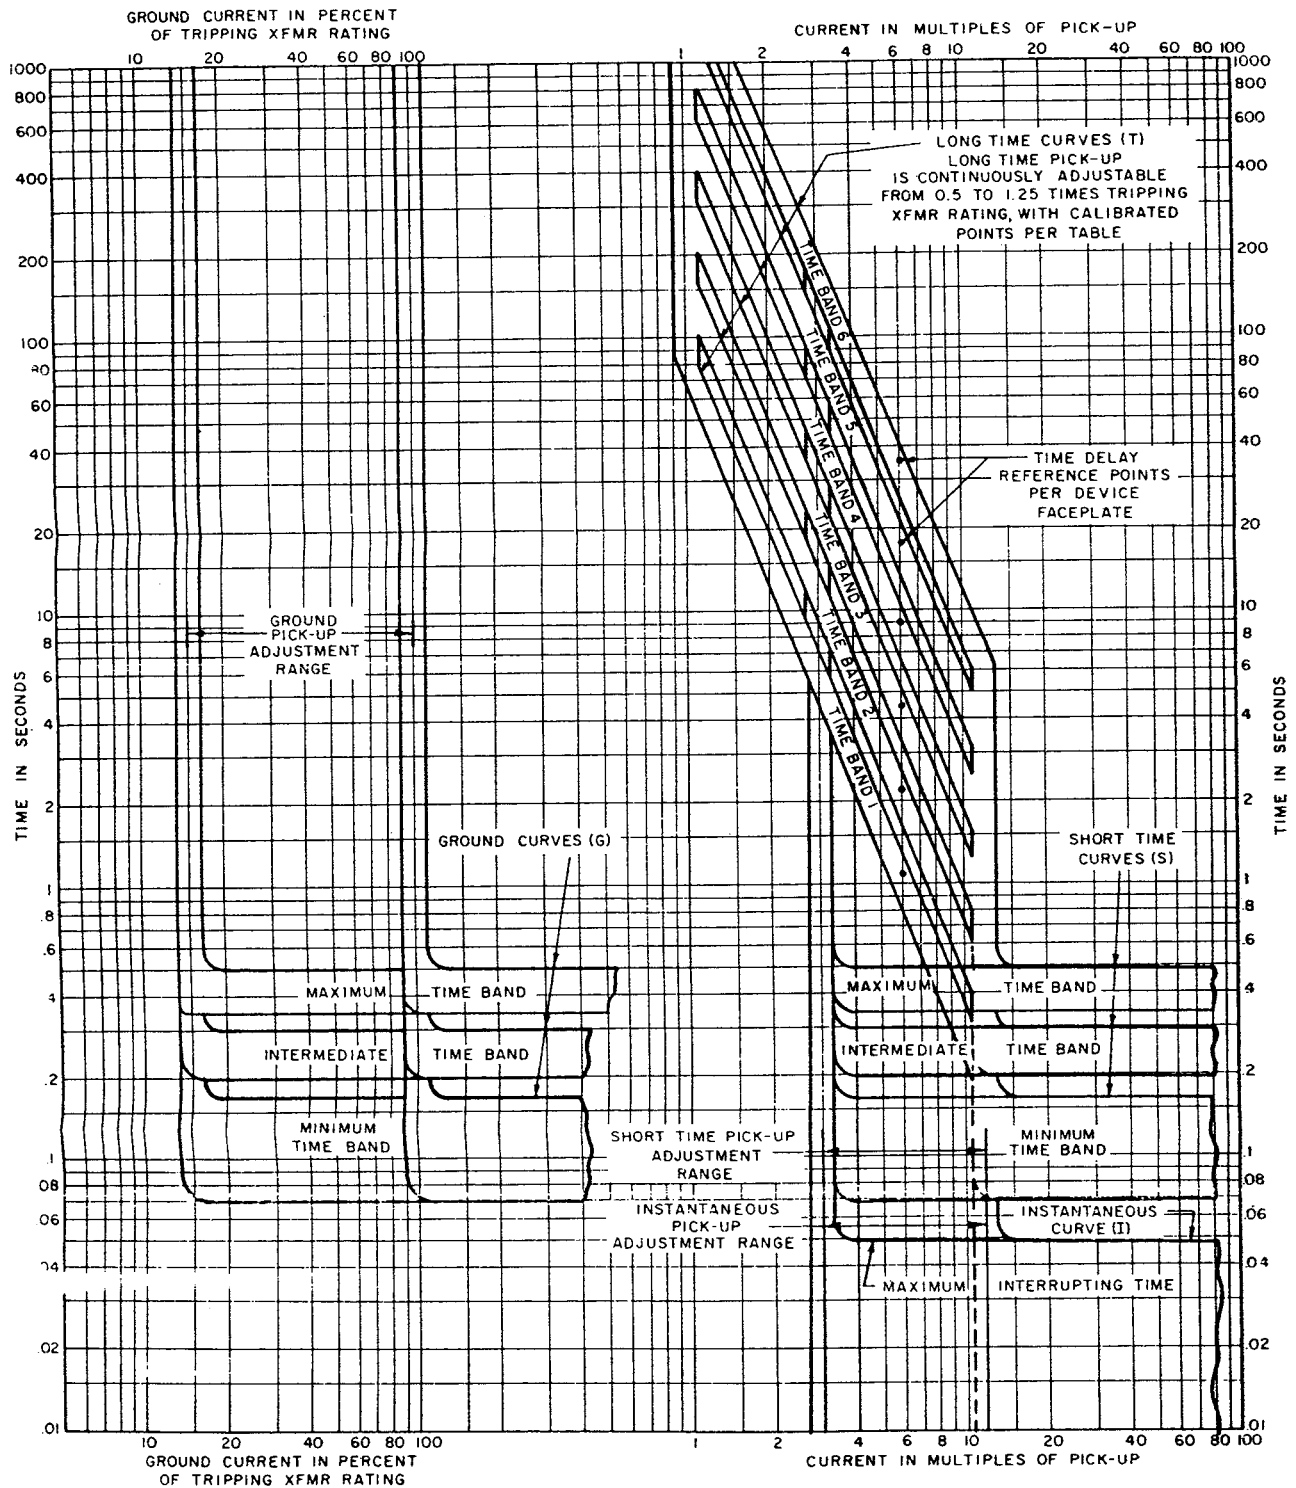

Figure 7. Time Current Curves—Static Trip II
8. Repeat for the other phases (by changing green plug to terminal 2 for phase 2, and terminal 3 for phase 3) time delay bands and other values of current, as desired. All test points should fall within the bands of **Figure 7**. Each time band should have precisely twice the delay of the next lower band when all other conditions are the same.
If the time delay is tested at an input current 6 times the pick-up setting, the nominal time delays will be as shown in the table on the trip device. Maximum and minimum limits can be determined by reference to the time current characteristic curves, **Figure 7**.
6. When the trip device operator, check the reading of the stop clock against the curves in **Figure 7**. The reading should be approximately the same as shown on the faceplate of the device, but must be within the limits shown on the curves. If not, recheck all settings and repeat the test.
5. Press the START button, the delay should be .35 to .50 seconds. See **Figure 7**.
6. Repeat the SHORT TIME BAND settings of INTERMEDIATE and MINIMUM, compare to **Figure 7**. The other phase circuits and different values of current can be tested if desired. Make current settings as quickly as possible to avoid overheating.
5. Press the START button. The breaker should trip in 0.4 and 0.5 seconds. See **Figure 7**. If the device has a target, its red button should pop out.